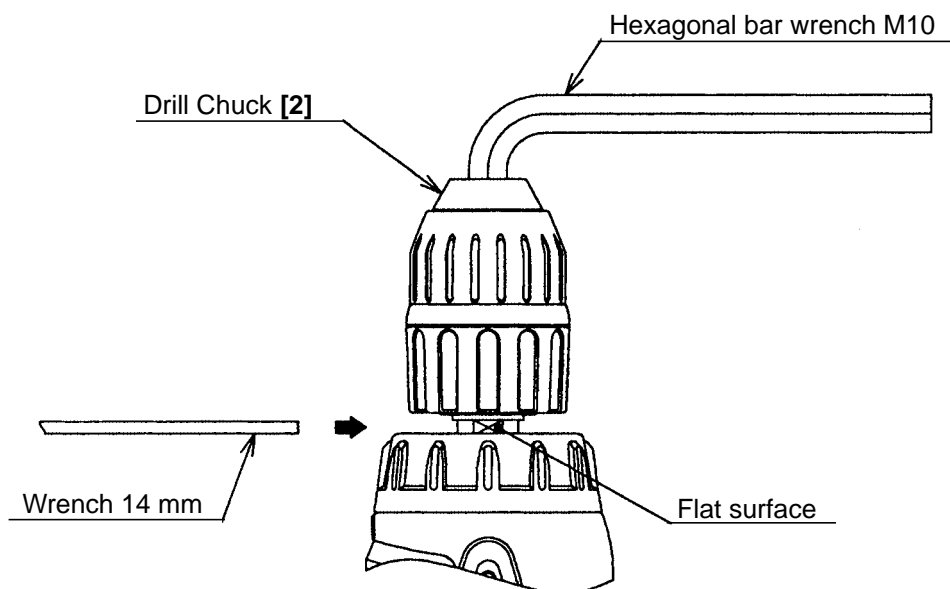

Fig. 4
(1) Removal of the Drill Chuck **[2]** (See Fig. 4.)
- (b) Fix the hexagonal bar wrench M10 into the Drill Chuck **[2]** as indicated in Fig.4. Next, apply a Wrench 14 mm (Special repair tool, Code No. 873929) to the flat surfaces on the spindle to hold it steady, and remove it by turning counterclockwise. If it is difficult to loosen, use a pipe extension or similar tool.